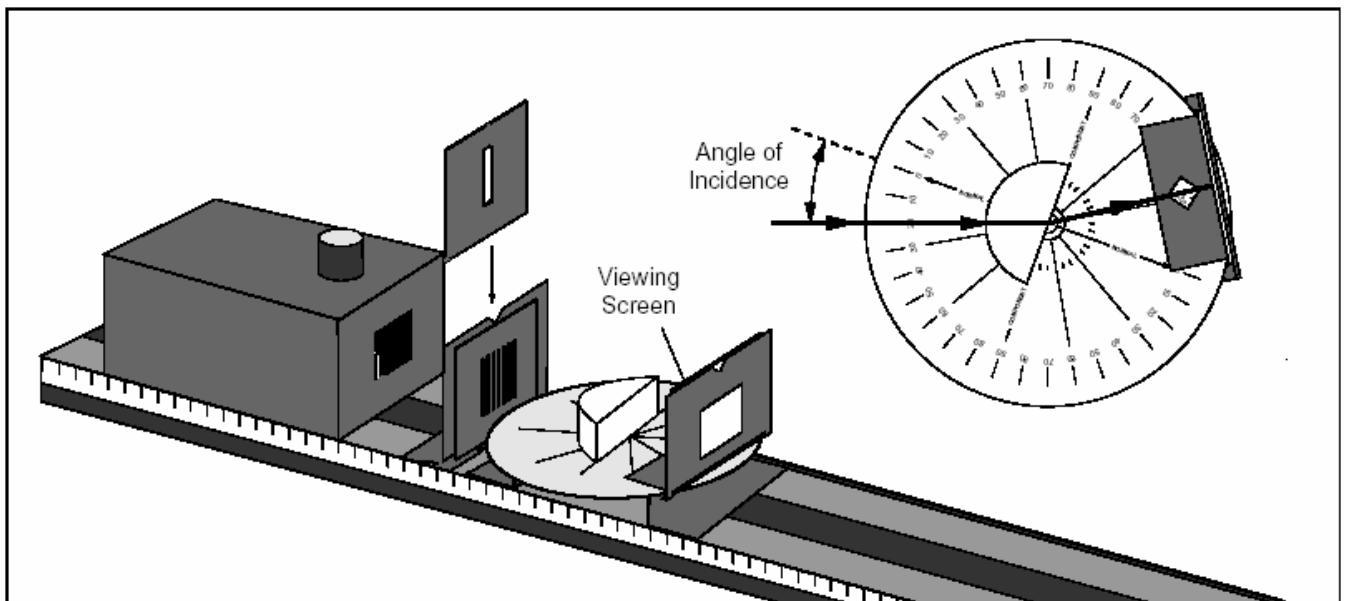

Figure 3 Experimental set-up for observing dispersion and total internal reflection.
1. Set up the equipment as shown in Figure 3, so a single light ray is incident on the curved surface of the Cylindrical Lens. Set the Ray Table so the angle of incidence of the ray striking the flat surface of the lens (from inside the lens) is zero-degrees. Adjust the Ray Table Component Holder so the refracted ray is visible on the Viewing Screen.
1. Set up the equipment as shown in Figure 3, so a single light ray is incident on the curved surface of the Cylindrical Lens. Set the Ray Table so the angle of incidence of the ray striking the flat surface of the lens (from inside the lens) is zero-degrees. Rotate the Ray Table slowly and notice that not all of the light in the incident ray is refracted. Part of the light is also reflected. From which surface of the lens does the strongest reflection occur?